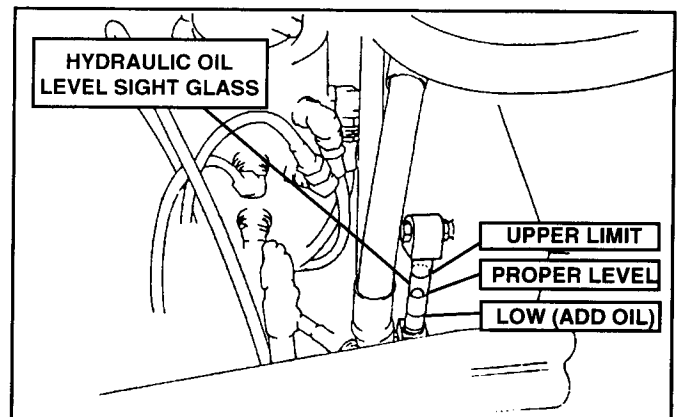

FIGURE 4.29
2. Open Battery Access Cover and view the hydraulic oil level in the sight glass on side of hydraulic oil tank. See Figure 4.29.